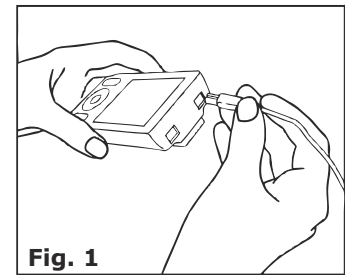
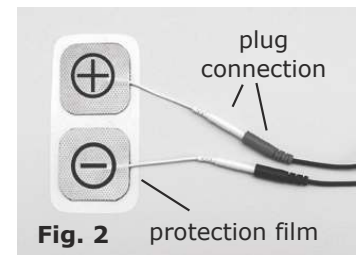
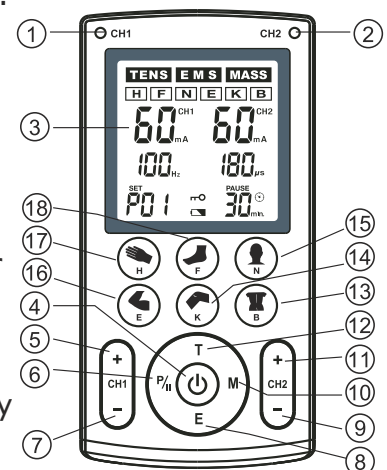

Fig. 1
Fig. 2
Fig. 3
- ⑪ Key (**CH2+**) for increasing the output intensity for channel **CH2** and for increasing the set values for **Hz**, **µs** and **min.** in the setting mode.
- ⑫ Key (**T**) for selecting a **TENS** programme.
- ⑬ Key (**B**) for selecting 3 pre-programmed programmes and 1 adjustable programme for the back.
- ⑭ Key (**K**) for selecting 3 pre-programmed programmes and 1 adjustable programme for the knee joint.
- ⑮ Key (**N**) for selecting 3 pre-programmed programmes and 1 adjustable programme for the neck.
- ⑯ Key (**E**) for selecting 3 pre-programmed programmes and 1 adjustable programme for the elbow joint.
- ⑰ Key (**H**) for selecting 3 pre-programmed programmes and 1 adjustable programme for the hand.
- ⑱ Key (**F**) for selecting 3 pre-programmed programmes and 1 adjustable programme for the foot.
Step 2: Insert one or two connecting cable(s) in the connector socket(s) of the device (see **Fig. 1**). Afterwards, connect the adhesive electrodes to the device by means of the plug connections (see **Fig. 2**). The device must be switched off when establishing the connection!
Step 4: In order to switch on the device, press the start key ④ (⏻) (**Fig. 3**). Set the desired application programme by using the keys ⑫ (**T**) = **TENS**, ⑧ (**E**) = **EMS** or ⑩ (**M**) = **MASSAGE**. Furthermore, you can select special programmes for the indicated parts of the body by using the one-touch keys ⑬ (**B**) = **back**, ⑭ (**K**) = **knee joint**, ⑮ (**N**) = **neck**, ⑯ (**E**) = **elbow joint**, ⑰ (**H**) = **hand** and ⑱ (**F**) = **foot**.
Step 8: In order to switch off the device, press and hold the key ④ (**Fig. 3**). Remove the plug of the connecting cable from the device and the adhesive electrodes. Then, remove the adhesive electrodes from the body and stick them back on the protective foil (**Fig. 2**). **NOTE:** If none of the keys is pressed, the device switches off automatically after three minutes provided that it is not in the operating state.
CAUTION: If malfunctions occur while using the device or if you wish to immediately stop the application, press and hold the key ④ (⏻) (**Fig. 3**). Every time a key is pressed, an acoustic signal (beep) is generated.